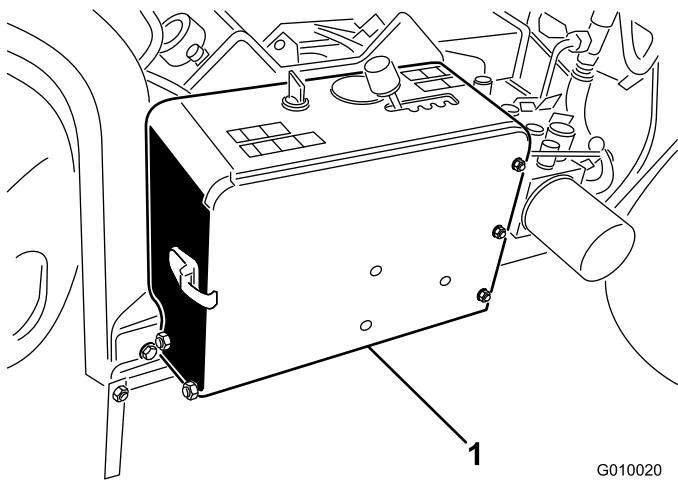

Figure 5
2. Remove the battery from the battery compartment (Figure 5).